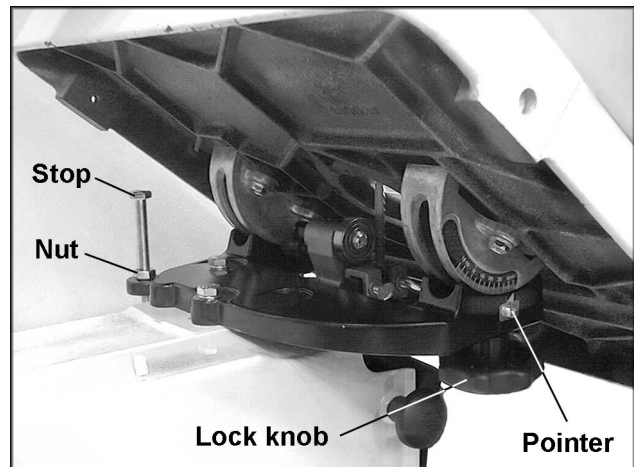

Fig. 14
1. Loosen two lock knobs (Fig. 14).
3. Tighten two lock knobs (Fig.14).
2. Loosen lock knobs (Fig. 14) and tilt table left until it rests against table stop.
5. Loosen jam nut and turn table stop (Fig. 14) left or right to raise or lower the stop. Tighten jam nut to hold table stop in place.